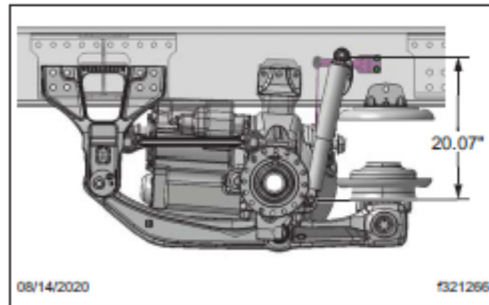

Fig. 3, Measuring the Suspension Ride Height
14. Check the suspension ride height by measuring between the shock mounting bolts. Measure from the centerline of the upper shock bolt to centerline of the lower shock bolt. The distance should equal 20.07 inches (50.98 cm). If necessary, set the suspension height by adjusting the rod in the lower rubber adjustment sleeve to achieve 20.07 inches (50.98 cm). See Fig. 3.